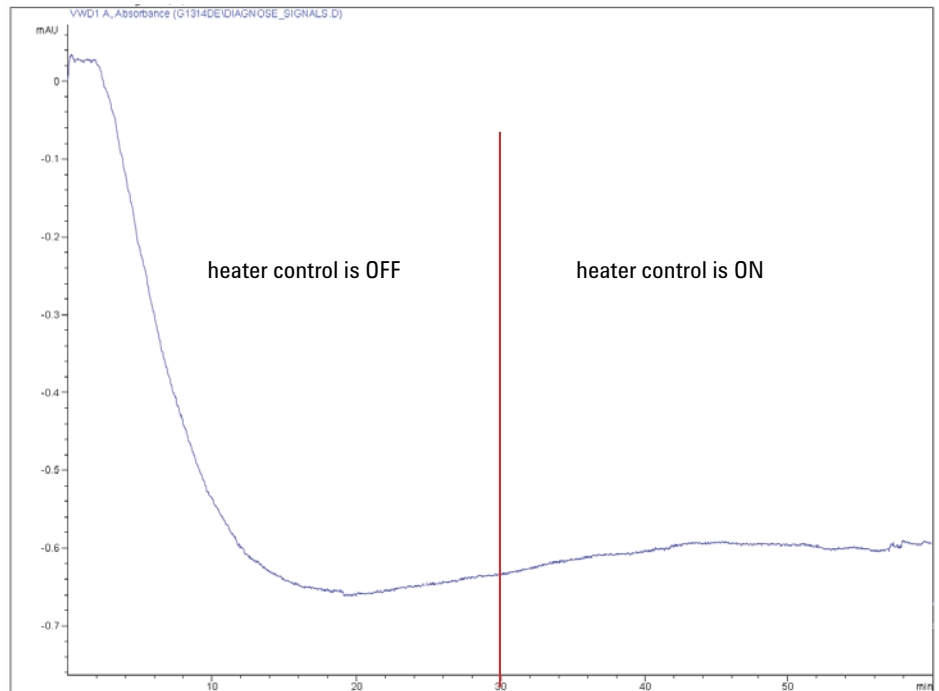

Figure 19 Stabilization of baseline after turn on of detector
- 6 Allow the detector to warm up of at least 60 minutes to provide a stable baseline (example: Figure 19 on page 63).